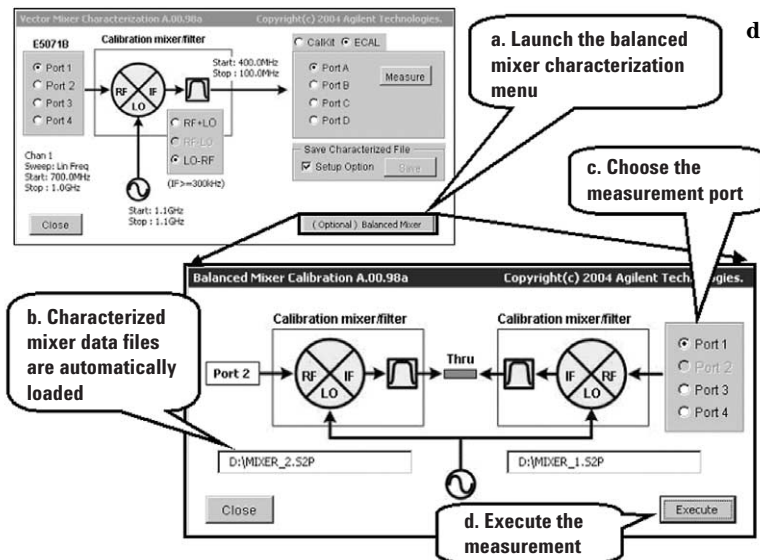

Figure 24. Balanced mixer characterization menu
- Press **[(Optional) Balanced Mixer]** on the vector-mixer characterization VBA macro menu and launch the balanced mixer characterization menu as show in Figure 24.